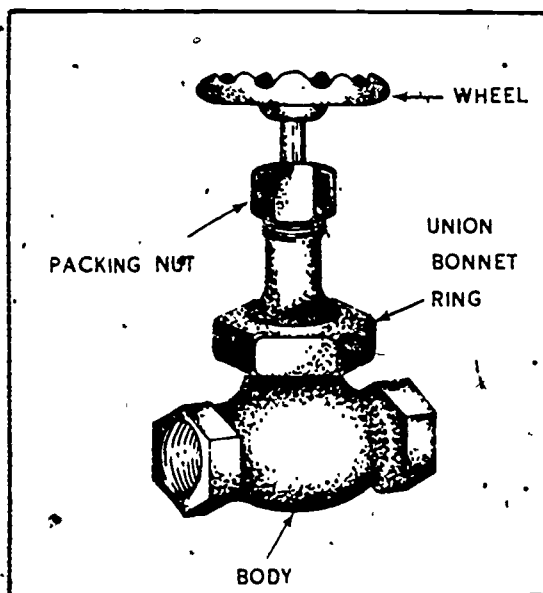
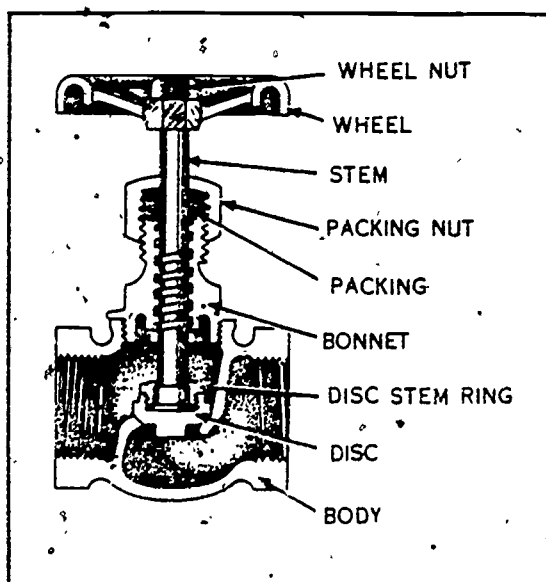

Figure 1-37. Typical globe valve
Figure 1-38. Globe valve with a conventional disc.
**Globe valves.** The globe valve is another valve that is widely used in plumbing systems. This valve is shown in figure 1-37. The cross sections of two of the most commonly used globe valves are shown in figures 1-38 and 1-39.